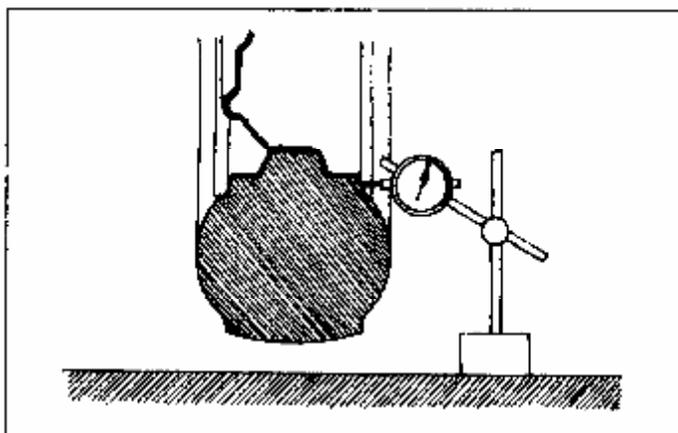

Figure 10-5-3 Check for End Surface Run-out of Wheel
① Check tire for wear and pressure. For 185/195 tire, its front wheel pressure is  $325\pm 5\text{kPa}$ , and rear wheel is  $450\pm 5\text{kPa}$ . Air pressure for all 205 tires is  $250\pm 5\text{kPa}$ . The air pressure difference between coaxial wheels should not exceed 5kPa.
② Check for end surface run-out of wheel, the value should be below 1.2mm. (Figure 10-5-3)